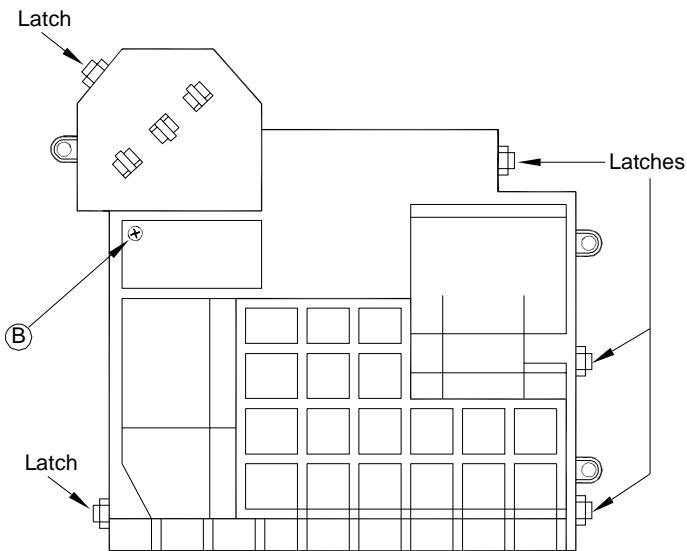

Figure 2: Duct Assembly (Top View)
- 1) Loosen two screws (A) and remove the Lamp Cartridge.
- 3) Remove screw (B) from the top of the upper duct and release the latches shown in *Figure 2*.